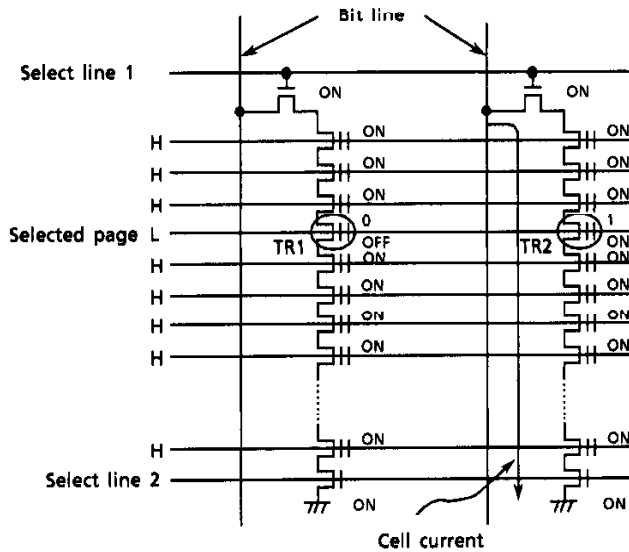

Figure 20. Read Operation Device Physics
Figure 20 shows the Read operation mechanism at the memory cell level :
- (1) A High voltage level is applied to Select lines 1 and 2 in the block which includes the selected page, so that the 16 NAND memory cells are connected to the Bit line and to ground.
- (2) 0 V is applied to the control gates of the selected page and a High level voltage is applied to the control gates of the unselected pages.
- (3) In Figure 20, transistor TR2, which is holding a 1, turns on, while transistor TR1, holding 0, turns off. All other unselected transistors turn on.
- (4) The precharged bit line tied to TR2 is discharged through TR2 as cell current flows to ground, while the precharged bit line tied to TR1 remains High because current does not flow. The sense amplifiers tied to the bit lines thus sense the voltage levels as 1 and 0 respectively.